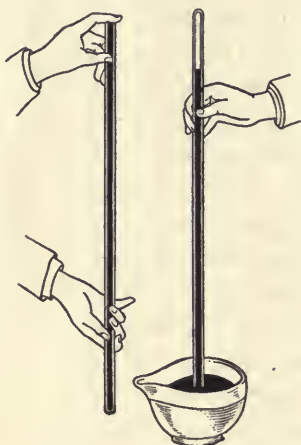

FIG. 31.—Torricelli's experiment.
53. Torricelli's Experiment (1643).—Take a glass tube about 3 ft. long, sealed at one end, and fill it with mercury. Close the end with the finger and invert, placing the end closed by the finger under mercury in a dish (Fig. 31). Remove the finger and the mercury sinks until the top of the mercury is about 30 in. above the level of the mercury in the dish. Torricelli concluded that the rise of liquids in exhausted tubes is due to the pressure of the atmosphere acting on the surface of the mercury in the dish.